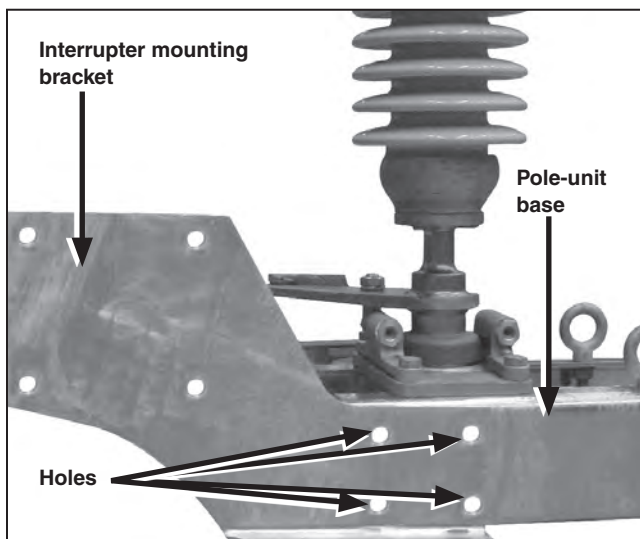

Figure 5. Install the interrupter mounting brackets to the disconnect base.
- Locate the four mounting holes at the hinge end of the disconnect pole-unit base. Place one interrupter mounting bracket along the base, and align it as shown in Figure 5.